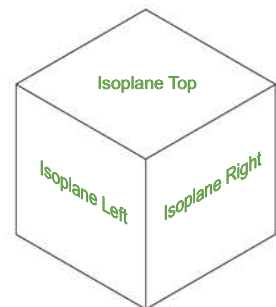

Fig. 8.18 The three isoplanes
2. There are three isometric angles – **Isoplane Top**, **Isoplane Left** and **Isoplane Right**. These can be set either by pressing the F5 function key or by selecting from the **Isometric Drafting** button in the status line. Fig. 8.18 is an isometric view showing the three isometric planes.